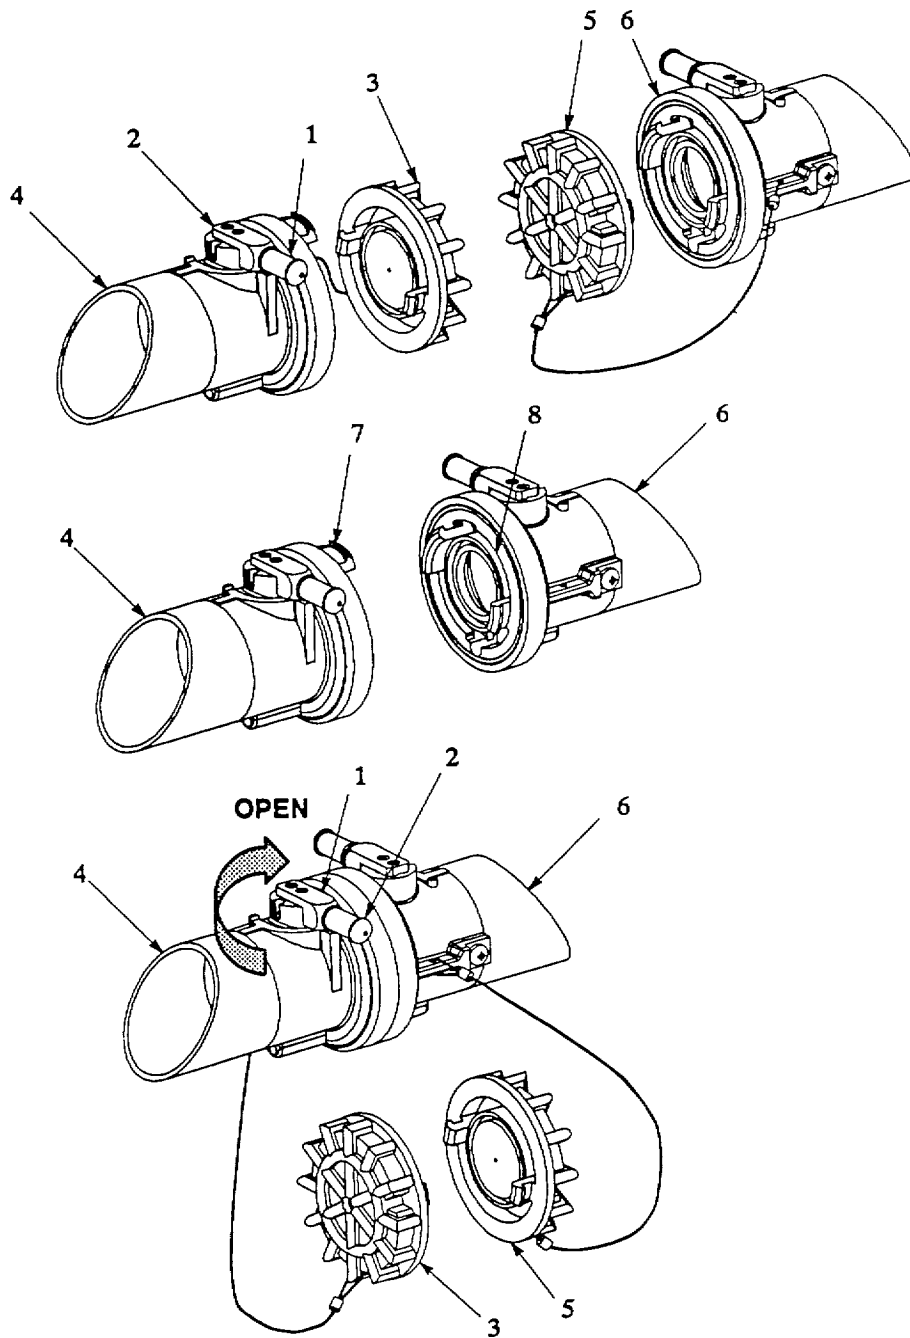

Figure 2-19. Valved Dry Break Coupling Disconnection.
- (1) Turn dust cap (1) to the left and separate from dust cap (3).
- (2) While pulling back on ring (7), turn coupling (2) to the left (counterclockwise) and disconnect from coupling (4).
- (3) Position dust cap (3) on coupling (4). Turn dust cap to the right to secure cap to coupling.
- (4) Position dust cap (1) on coupling (2). Turn dust cap to the right to secure cap to coupling.
c. Valved Dry Break Coupling Disconnection. Refer to figure 2-19.**CAUTION**